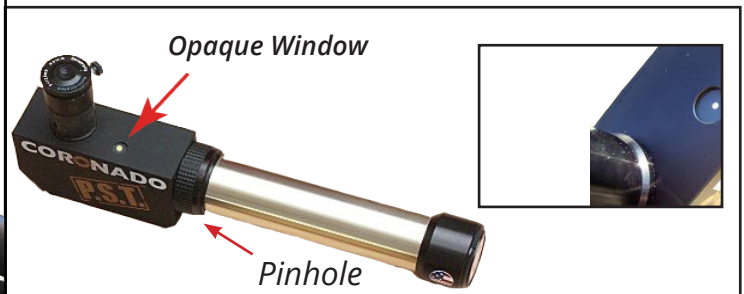

Figure 4.
5. Use the shadows on the ground and the Sol Ranger™ sun spotting device (*Figure 4.*) to help aiming the telescope. This device is a small pinhole on the front face of the telescope body and a small opaque window on the top, near the eyepiece holder. When properly aligned on the Sun, the pinhole will let in light that will be projected onto the opaque glass in the form of a small harmless ball. ***Note: You will not see the projected light if your hand is blocking the small pinhole.***